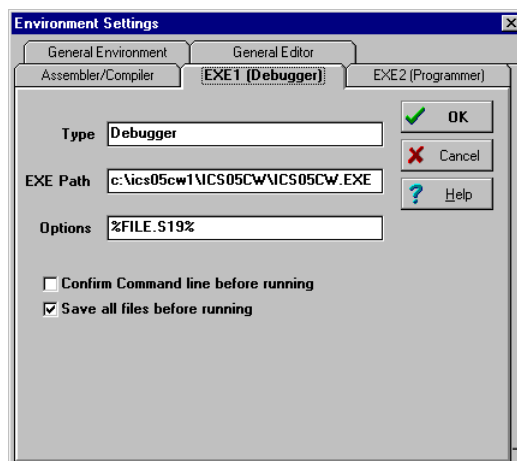

Figure 1-1. WinIDE Environment Settings Dialog EXE1 Tab
- Click on the *EXE1 Debugger* tab to bring the tab (Figure 1-1) to the front. Set the executable type, path and filename, command line options (including optional switches, filenames, or port settings), and other options for the ICS05JPW debugger application.